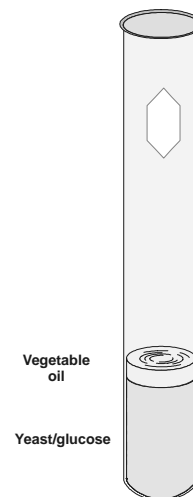

Figure 2
6. In the test tube, place enough vegetable oil to completely cover the surface of the yeast/glucose mixture as shown in Figure 2. Be careful to not get oil on the inside wall of the test tube. Set the test tube in the water bath.